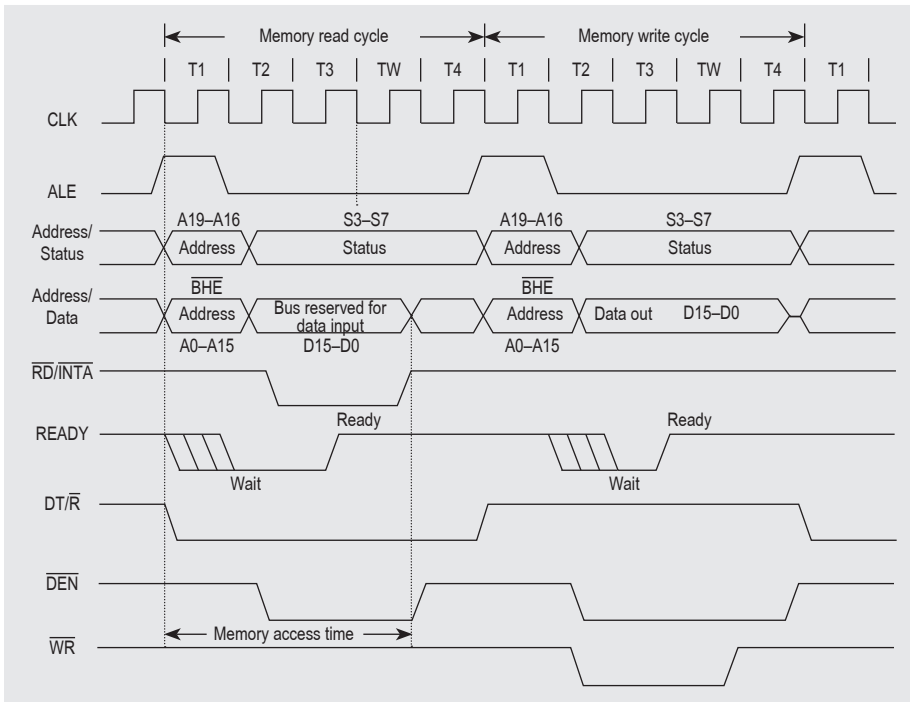

Fig. 18.7 Timing diagram for general bus operation of the 8086 in minimum mode
The timing diagram for general bus operation of the 8086 in minimum mode is shown in Fig. 18.7. If the Ready signal is still in low state at the beginning of T3, one or more wait states (TW) will be inserted between T3 and T4, until a Ready has been received (i.e., Ready is made 1). The bus activity during TW is the same as the activity during T3. A signal applied to an RDY input of the 8284A causes a Ready output to the 8086 at the falling edge of the current clock cycle.
When the processor is ready to initiate a bus cycle, it places the address in the lines AD15–AD0 and A19/S6–A16/S3, and the status of $\overline{\text{BHE}}$ in the line $\overline{\text{BHE}}/\text{S7}$, and applies a pulse to the ALE pin during T1. Before the falling edge of the ALE signal, the signals in the address lines $\overline{\text{DEN}}$, $\text{DT}/\overline{\text{R}}$, $\text{M}/\overline{\text{IO}}$, and $\overline{\text{BHE}}$ are made stable (i.e., the appropriate value, 1 or 0, is placed on the address lines), with $\text{DT}/\overline{\text{R}} = 0$ for the read operation, and $\text{DT}/\overline{\text{R}} = 1$ for the write operation. At the falling edge of the ALE signal, the 74LS373s latches the address in the lines AD15–AD0 and A19/S6–A16/S3, and the status of $\overline{\text{BHE}}$ in the line $\overline{\text{BHE}}/\text{S7}$. During T2, the address in these lines is removed and the status signals S3–S7 are outputted on the A16/S3–A19/S6 and $\overline{\text{BHE}}/\text{S7}$ pins. $\overline{\text{DEN}}$ is made logic 0 to enable the 74LS245 transceivers. The logic value in the line $\text{M}/\overline{\text{IO}}$ (which is not shown in Figs 18.7, 18.8, and 18.9) is 1 for memory-related operations and 0 for I/O-related operations.